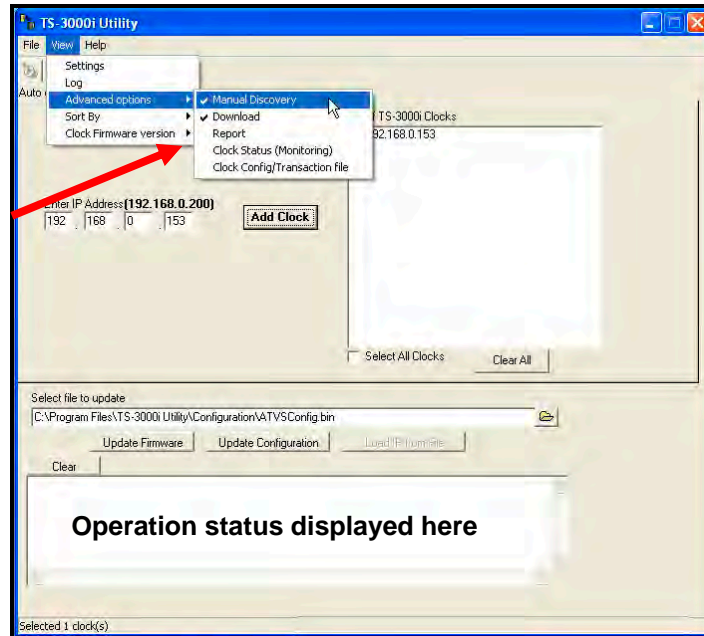

Figure 5-13. Manual Discovery Download.
Step 1. With the **Advanced options → Download** open, click on **View → Advanced options → Manual discovery** to enter the IP Address for the desired clock, and press the **Add Clock** button to add the clock to the list of TS-3000i clocks (see *Figure 5-13*). Use this same procedure to manually add other TS-3000i clocks to the list.